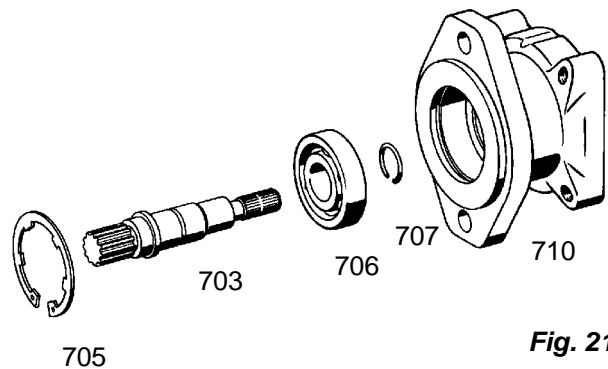

Fig. 21
Press ball bearing (706) on to the shaft (703) up to the stop and secure with the snap ring/retaining ring (707) (**Fig. 21**).